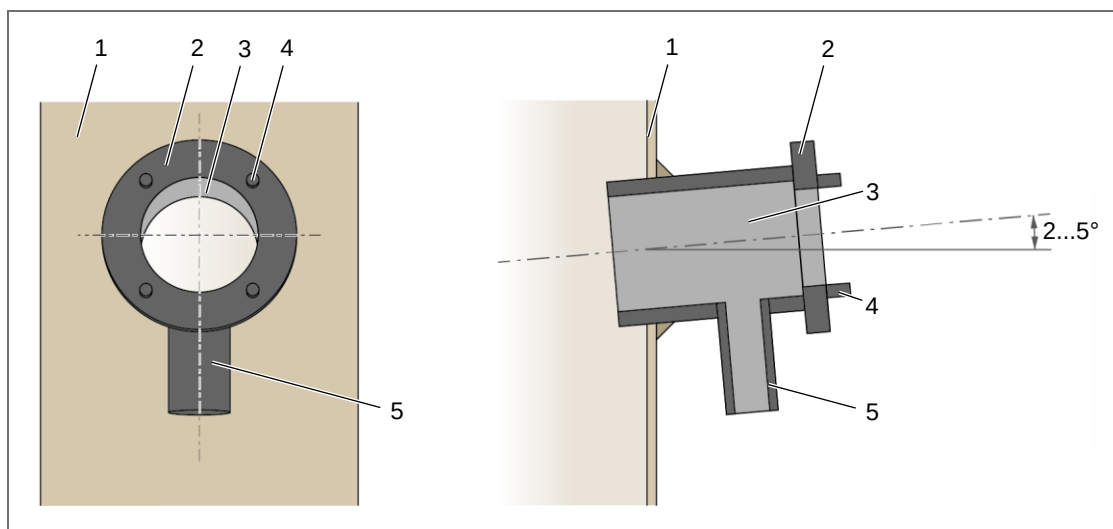

Fig. 18: Mounting of welding flange – variant with integrated return
2. Mount the welding flange (3, Fig. 18) with integrated return flange (5) at the provided aperture in the duct wall (1).